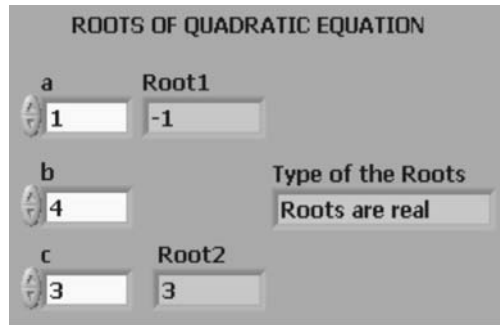

**Figure P3.3**
**Solution** Create the front panel and the block diagram as given in Figure P3.3(a) and P3.3(b). Then create the subVI called “BCD to GRAY” and use it in the main VI as shown in Figure P3.3(c) and P3.3(d).